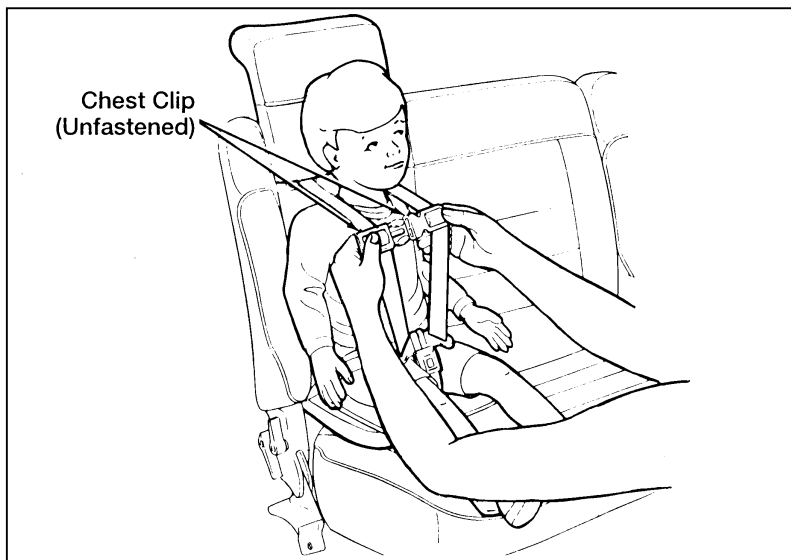

Figure 9: Fastening the chest clip
1. Open the chest clip. Refer back to Figure 9.